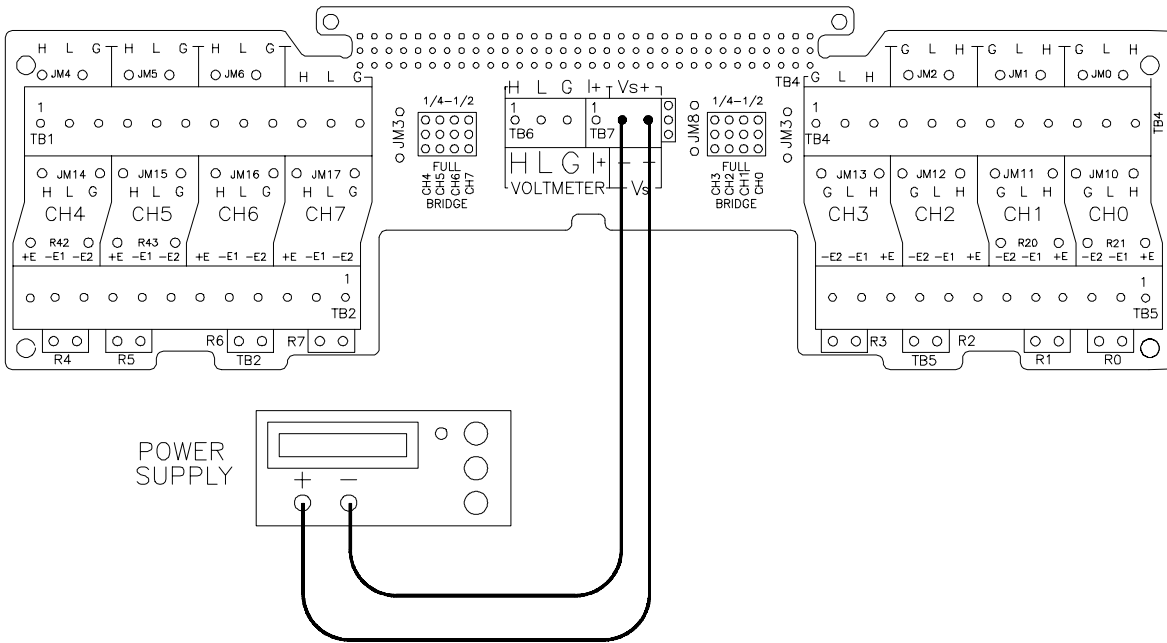

Figure C-1. Externally Supplied Bridge Excitation Voltage
1. If the bridge excitation voltage is externally supplied, connect the supply to the terminal module as shown in Figure C-1. Set the voltage to 5.0V.